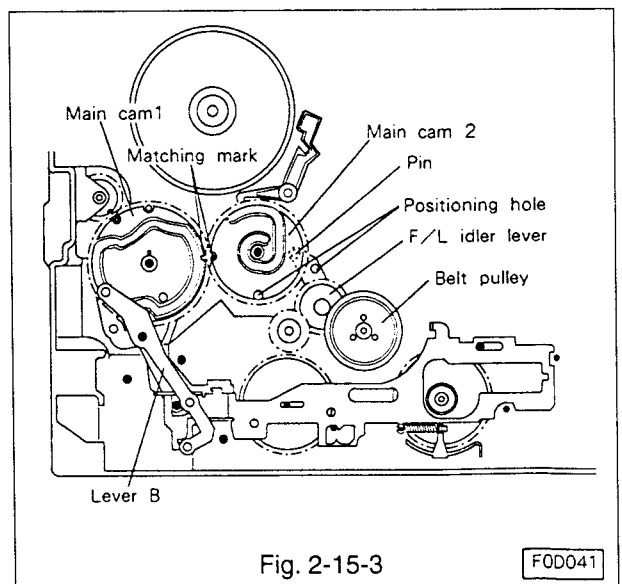

Fig. 2-15-3
- F. Assemble the lever B to the shaft so that the pin of the lever shown in Fig. 2-15-3 shall enter the groove of the main cam 1. Secure the lever with a grip ring.
- G. Line the positioning hole of the F/L idler lever with that of the main plate. (Refer to Fig. 2-15-3.)
- H. Line the matching mark of the main cam 2 with that of the main cam 1, and also the positioning hole of the main cam 2, and assemble the main cam 2 to the shaft. (Refer to Fig. 2-15-3.)